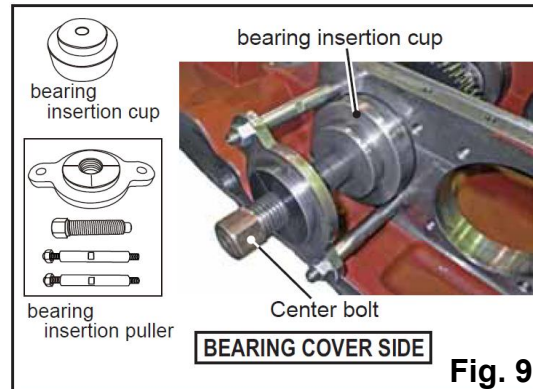

Fig. 9
- 6) Assemble the bearing insertion puller to threaded holes of bearing cover then assemble the bearing insertion cup between the center bolt and the bearing housing, (Fig. 9).
- 7) Press fit the bearing outer of bearing cover side with the bearing insertion puller and bearing insertion cup to 2 to 3 mm deep from the mounting surface of bearing cover, (Fig. 9 & 10).